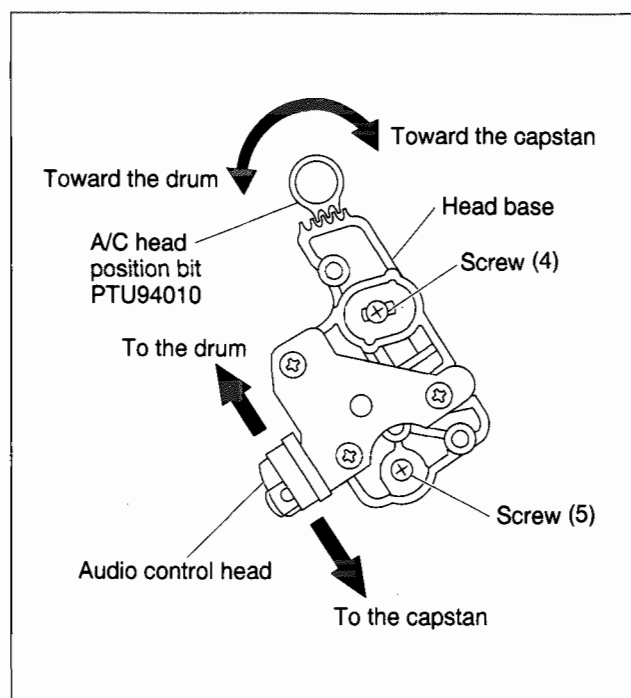

Fig. 2-3-6
- (1) Connect the oscilloscope to TP106(V. PB FM) of the main board assembly and to TP111(D.FF) of the main board assembly for external sync connection.
- (2) Play the alignment tape MHPE and observe the FM waveforms.
- (3) Press the channel buttons (▲, ▼) simultaneously during playback to enter the manual tracking mode. (This also brings tracking to the centre.)
- (4) Loosen screws (4) and (5) so that the A/C head position bit (PTU94010) is set as indicated in Fig.2-3-6.
- (5) Turn the A/C head position bit fully toward the capstan. Then turn it back gradually toward the drum and stop on the second peak point position of the FM waveform output level. Then tighten the screw (4) temporarily.
- (6) Then play the alignment tape MHPE-L.
- (7) Press the channel buttons (▲, ▼) simultaneously during playback to enter the manual tracking mode. (This also brings the tracking to the centre.)
- (8) Perform the tracking operation and make sure that the FM waveform is at its maximum.
- (9) If it is not at maximum, loosen the temporarily tightened screw (4) and turn the A/C head position bit to bring the audio control head to a position, around where the waveform reaches its maximum for the first time. Then tighten the screws (4) and (5).